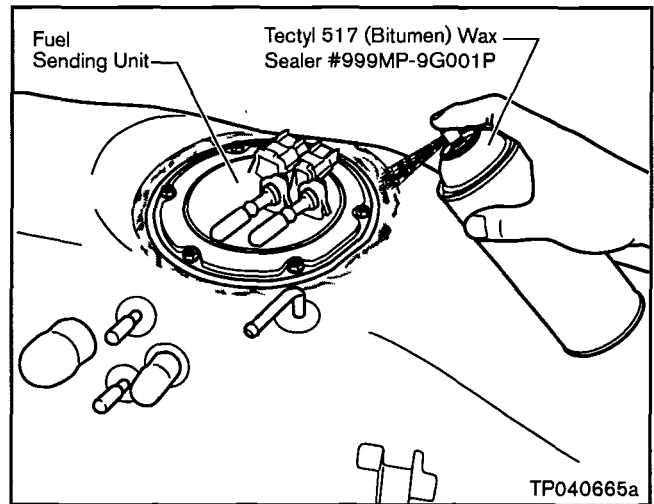

Figure 22
b. Then, apply ONLY Tectyl 517 (Bitumen) Wax Sealer (999MP-9G001P) around the outer edge of the Fuel Sending Unit Mounting Flange (see Figure 22).